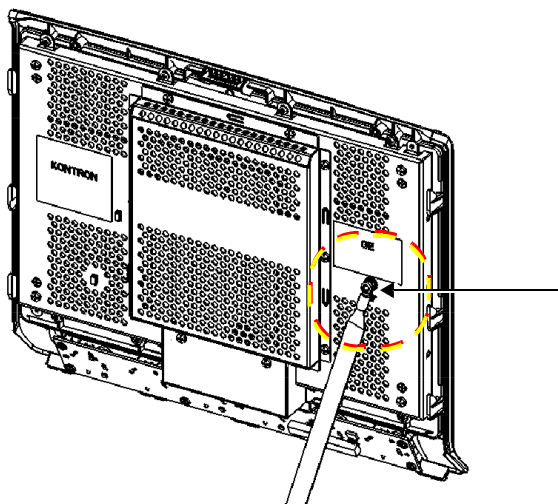

Figure 8-42 Disconnecting the Ground Cable
- 5.) Using a 7mm socket, disconnect the Ground cable - Figure 8-42.